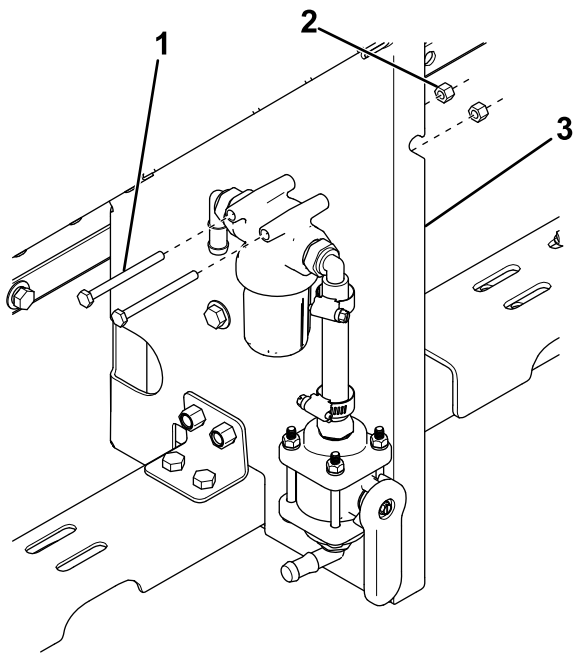

**Figure 37**
- Mount the filter to the filter bracket using 2 bolts (1/4 x 3 inches) and nuts (Figure 37), then continue to step 5.